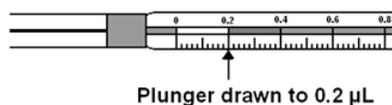

Figure 4.2.2. Syringe with liquid drawn to the 0.2  $\mu\text{L}$  mark.
- b. Draw up approximately 0.2  $\mu\text{L}$  of liquid. See Figure 4.2.2. It is not critical that the volume be exactly 0.2  $\mu\text{L}$ ; a tiny bit more or less volume is all right.